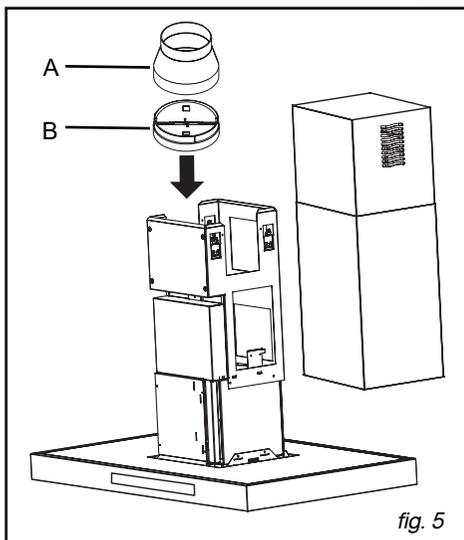

fig. 5
– In outdoor evacuation mode, fit the back-flow valve to the motor outlet (fig. 5-B). This back-flow valve allows obstruction of air entering from outside.
– If you are using a 125 mm diameter flue, use the adapter supplied (fig. 5-A).